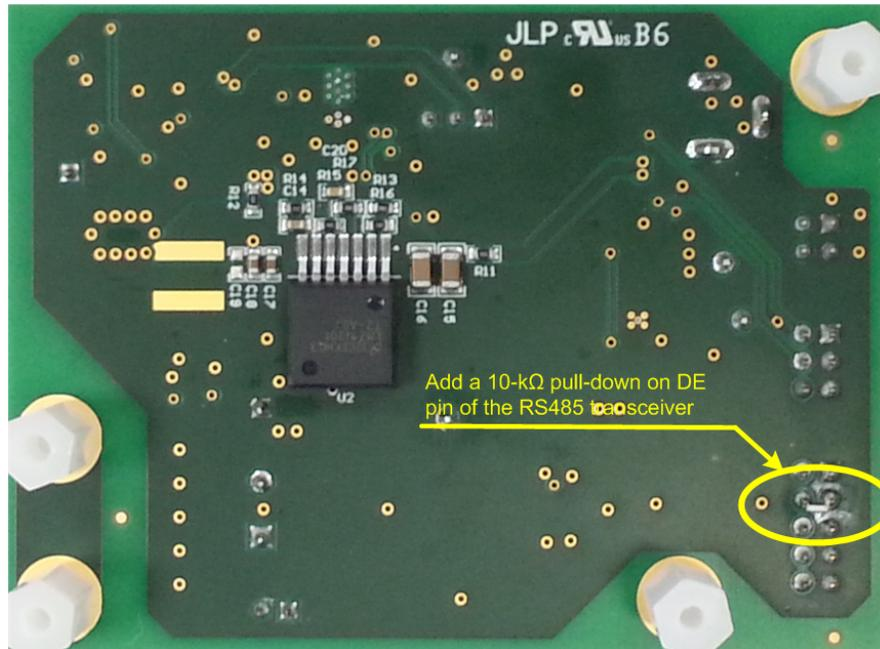

Figure 18. Pull-down Resistor on the DE Pin of the RS-485 Transceiver
1. Solder a 10-k Ω pull-down resistor from /DE to GND, like in Figure 18: